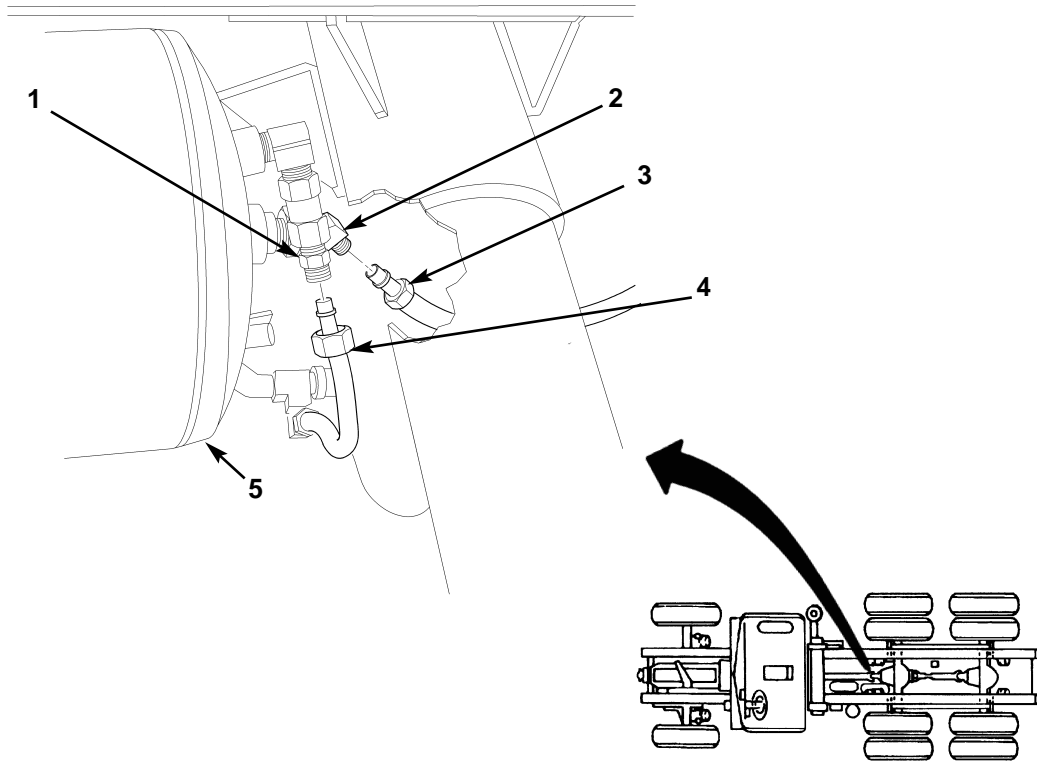

Figure 54. Disconnecting Tubes from Primary Reservoir.
30. Disconnect tubes (figure 54, items 3 and 4) from adapter (figure 54, item 1) and elbow (figure 54, item 2), located at front end of primary reservoir (figure 54, item 5).